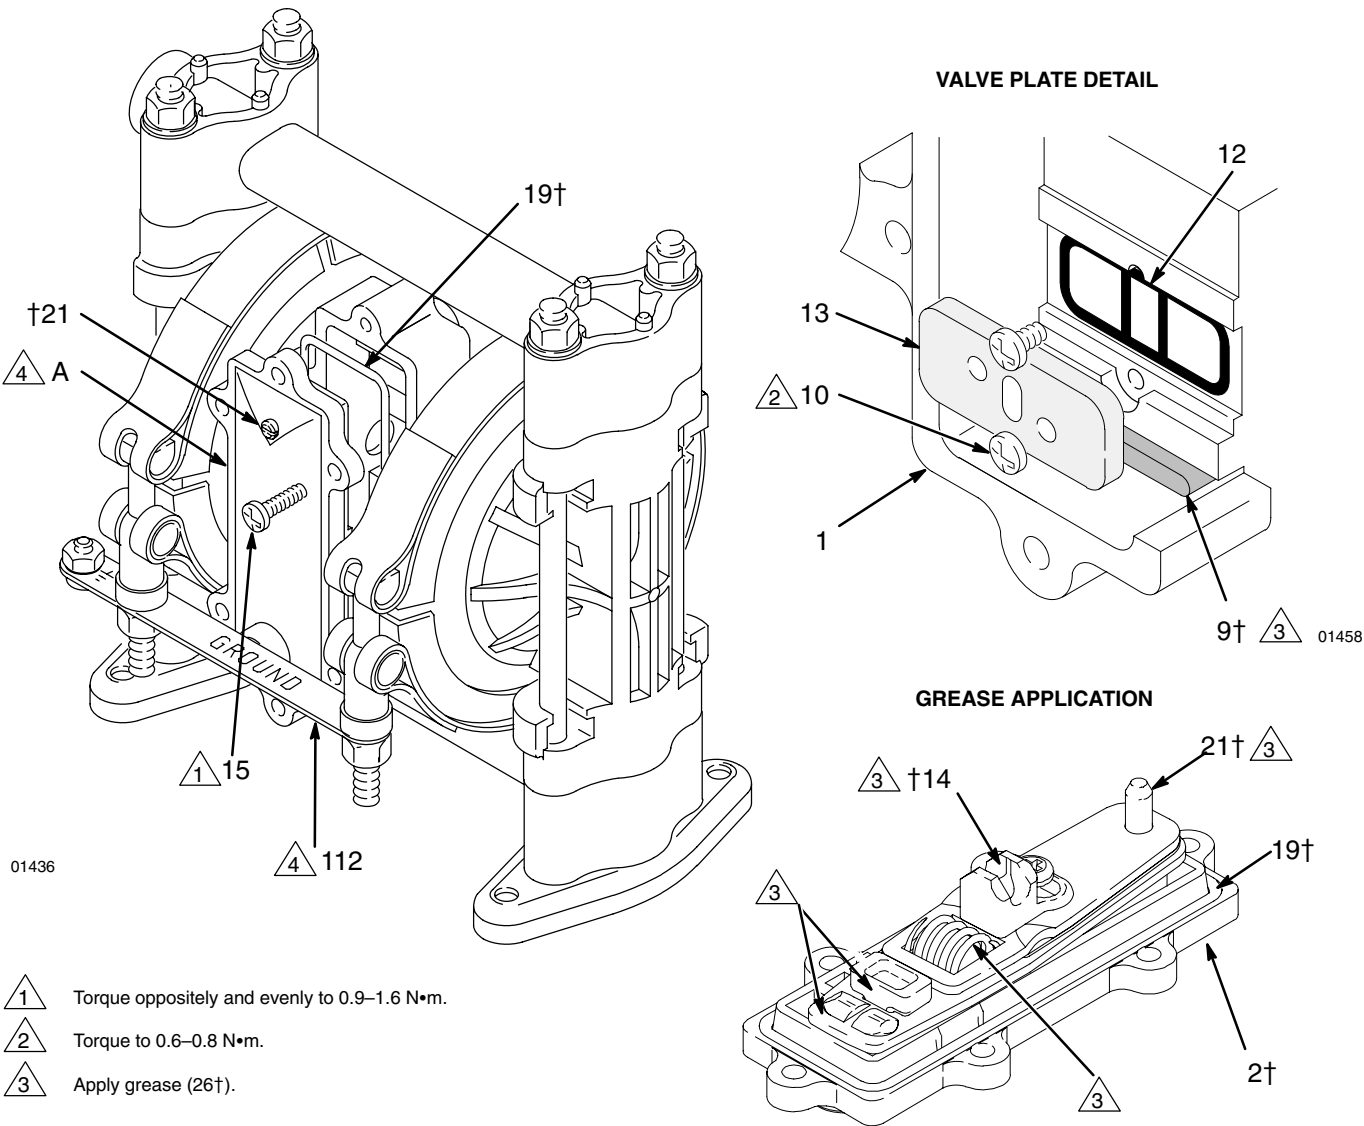

Fig. 8
2. Unscrew the six mounting screws (15) and remove the air valve (A) from the pump. See Fig. 8.
3. Refer to the Valve Plate Detail in Fig. 8. Remove the two screws (10) holding the valve plate (13) to the pump. Use an o-ring pick to remove the valve plate, seal (12), and bearing (9).
4. Apply grease (26†) to the bearing (9†). Install the bearing and the seal (12) in the pump housing (1). Install the valve plate (13) and secure with the two screws (10†), as shown. Torque the screws to 0.6–0.8 N•m.
6. Apply grease (26†) where shown in Fig. 8.
7. Align the new air valve assembly so the reset shaft (21†) is at the top. Install the valve on the pump, making sure the valve saddle (14†) engages the recessed area on the diaphragm shaft (23). Install the six screws (15) and torque oppositely and evenly, to 0.9–1.6 N•m.
6. Reinstall the air valve, using the six mounting screws (15). See Fig. 8.